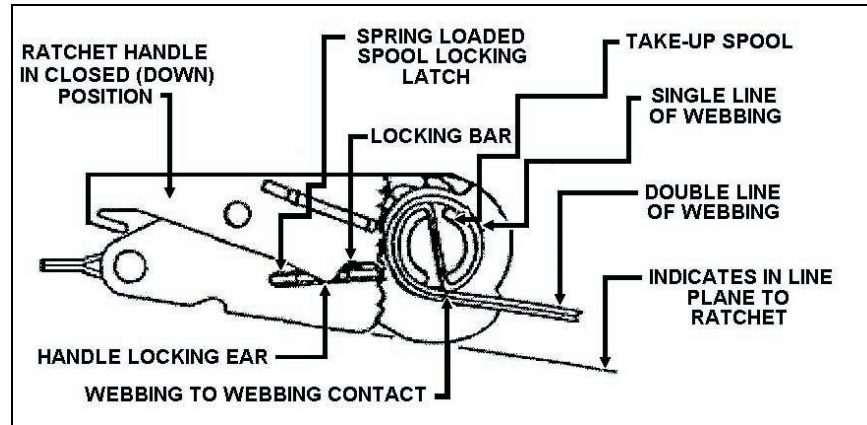
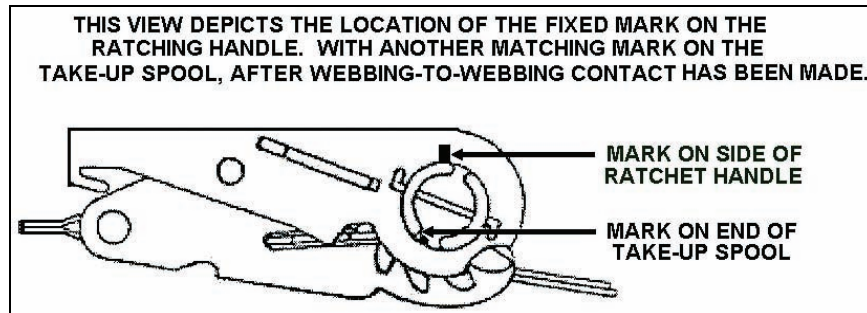

Figure 3-26. Web-to-Web Contact
Figure 3-27. Locking Latches
- 2. Inspect tiedown materials (see Figure 3-26 and Figure 3-27).